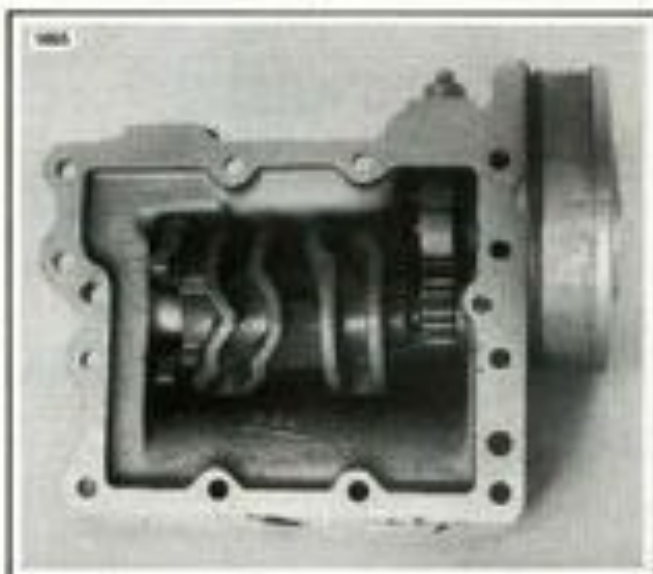

Figure 7-19. Drum Shifter in Neutral
1. Place the shifter cam in neutral as shown in Figure 7-19.